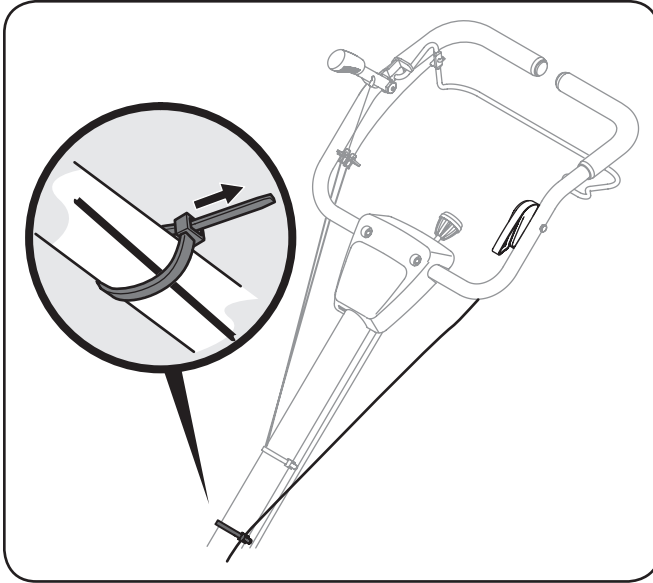

Figure 3-5
4. Secure the throttle cable to the handle with a cable tie as shown in Figure 3-5.